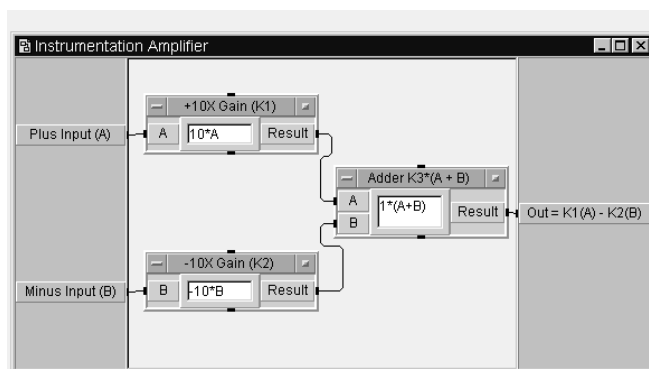

Figure 12.1. The Instrumentation Amplifier UserObject
11. Select Menu Bar => Device => Formula; place it to the right of, and in line with, Plus Input (A); rename it +10X Gain (K1).
13. Clone +10X Gain (K1); place it to the right of, and in line with, Minus Input (B); rename it -10X Gain (K2); change its input terminal from A to B.
18. Connect the Adder $K3*(A + B)$ input pins to the respective output pins (Result) of the other two formula objects; connect its output pin to the UserObject output pin. See Figure 12.1.